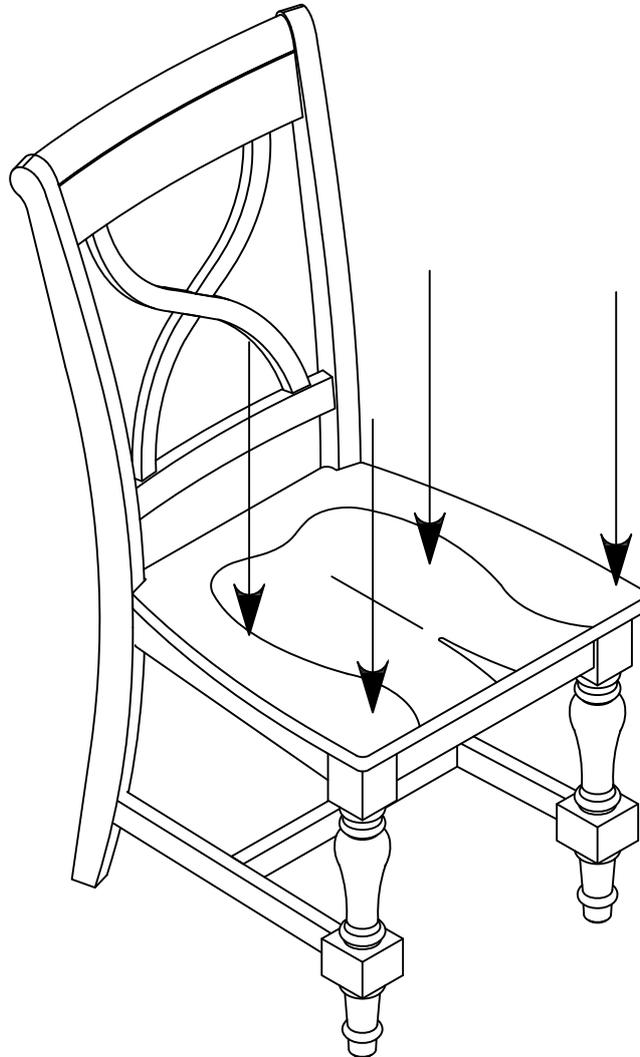

Fig.7
Step 9: Place the loosely assembled chair on a hard flat surface and apply gentle downward pressure on the seat. As shown on Fig.7. Once the chair is balanced and leveled, fully tighten all bolts.